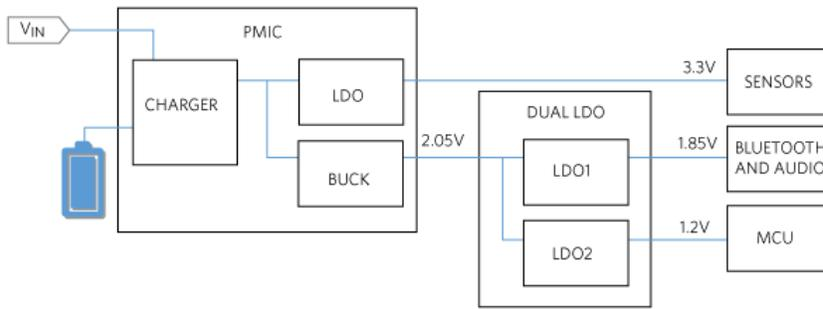

Figure 2. Typical power flow diagram of hearable devices.
**Figure 2** shows the typical power flow of a hearable audio device where LDOs are adopted for driving the noise sensitive components.